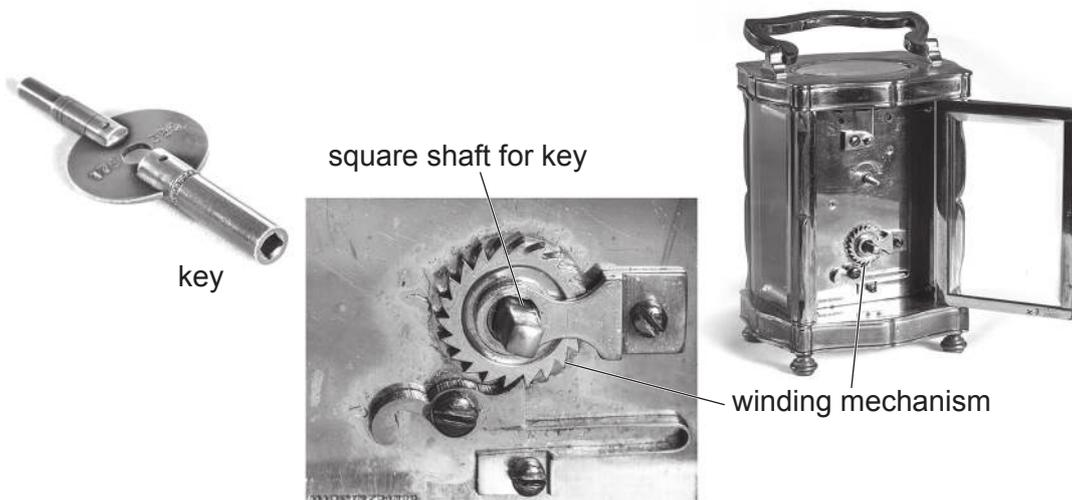

Fig. 11.3
- (c) Fig. 11.3 shows a clock with an enlarged view of the winding mechanism and the key used to wind the clock.
- (i) Draw on the enlarged view in Fig. 11.3 to show the direction that the key will be turned. [1]
- (ii) Name the winding mechanism in Fig. 11.3.